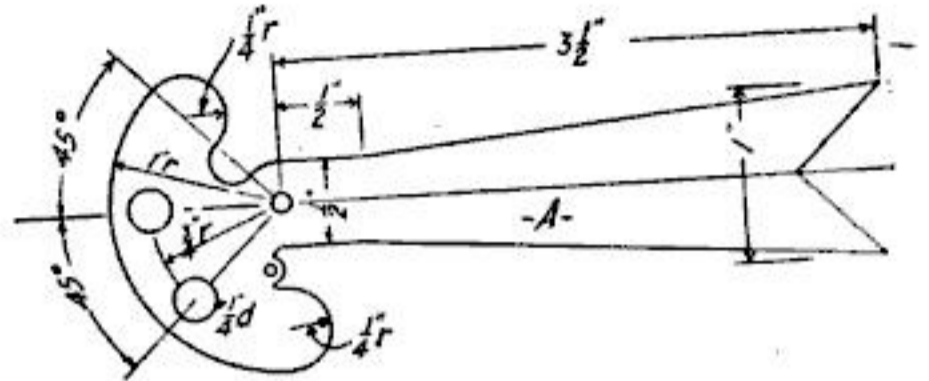

Fig. 2. Detail of the semaphore arm, showing dimensions
Fig. 2 is the detail of the semaphore arm, which is made of light sheet brass or aluminum. The dimensions explain it thoroughly. The small lip which is to be bent outwards at right angles is the part to which the string (K) is attached.